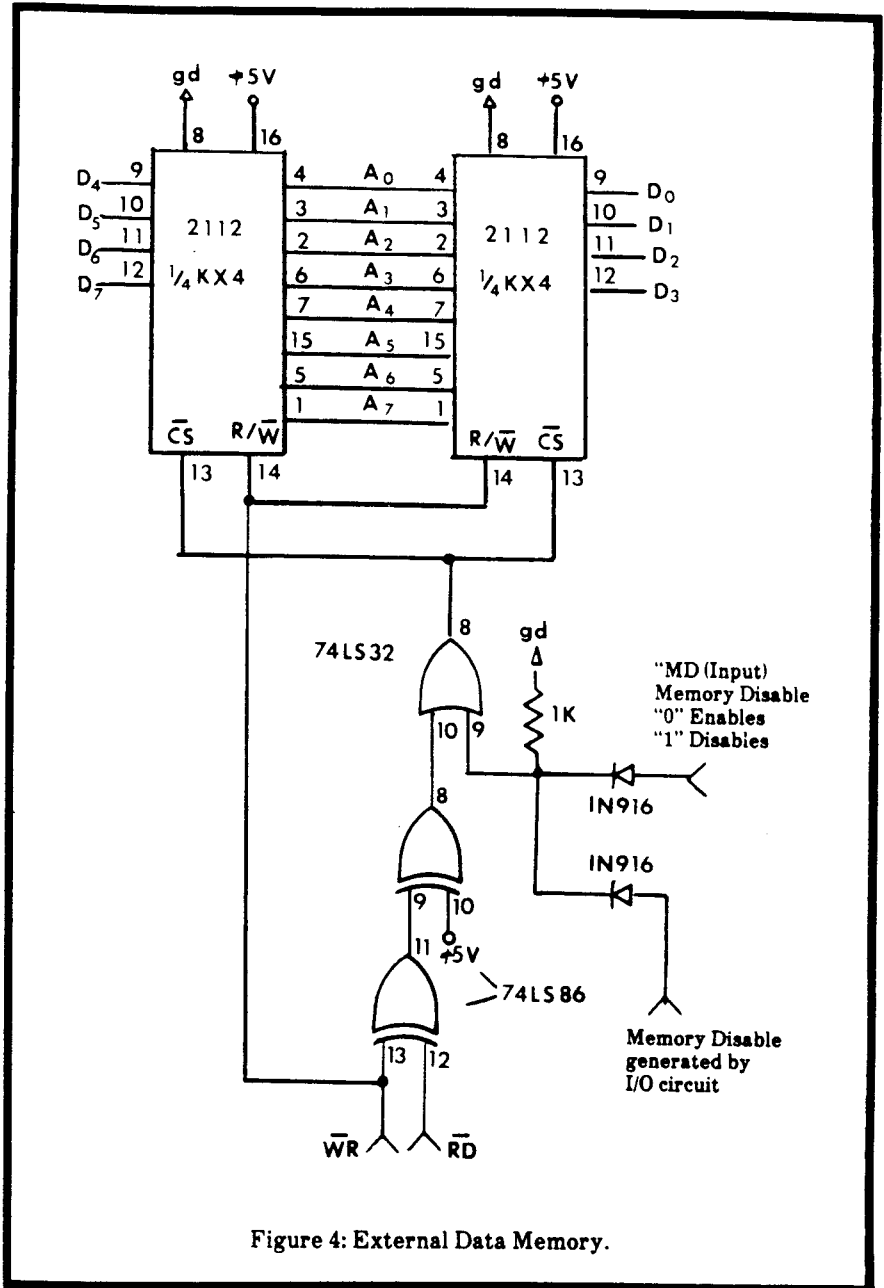

Figure 4: External Data Memory.
**External Data Memory.** External data memory is read/write memory. It has its own set of read/write control signals generated by the CPU, RD and WR respectively, and it has a unique set of instructions for its operation. The CPU's program counter cannot be set in this memory space so that the data placed in this space cannot be used as program instructions by the CPU. This memory is used primarily for data storage. Refer to Figure 4 for the circuit diagram of the data memory. When the CPU wants to read data from, or write data to, the data memory it must first output a memory address, as it did for the program memory. The external data memory uses only the eight lower order address lines so that a maximum of 256 (28) memory locations can be accessed. Once the address is latched into the 74LS373 it goes directly to the two 2112's (256 × 4 random access memories). If the CPU wishes to do a memory read it will pull RD low which will pull CS on the 2112's low, causing the 2112's to be activated. With RD active low, WR will be high causing the memories to be in the read mode. Since the 2112's are 256 × 4 bit memories, two 2112's are required to create 8-bit words. The 2112's place their 4 bits each on the data bus, and the CPU strobes this data into its accumulator. If the CPU wishes to do a memory write it will place the data on the data bus and pull WR low. With WR low the memories are in the write mode. A WR low also pulls CS on the 2112's low activating the memories and writing the data into them. On the CD-1 only the upper 248 of the 256 external data memory locations can be utilized as memory. The eight lower locations are used for I/O device code generation. This is explained in detail below.
One important characteristic must be considered when performing MMIO operations with the CD-1. **The CPU will perform external data memory operations and generate device code pulses simultaneously.** This will cause bit conflicts on the data bus when input device operations are performed for all but the eight "on board" device codes (the external data memory is automatically disabled for these eight). For the remaining 248 possibilities it is the responsibility of the external devices to disable the external data memory's output while the devices are writing to the CPU. This is done by placing a logic "1" on the input control pin "Memory Disable" of the external memory (Figure 4).